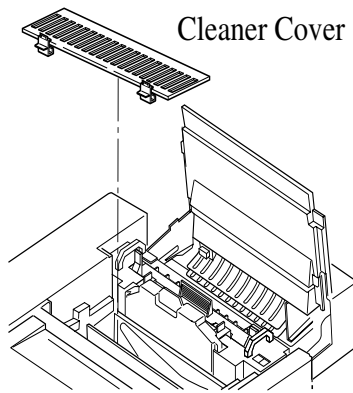
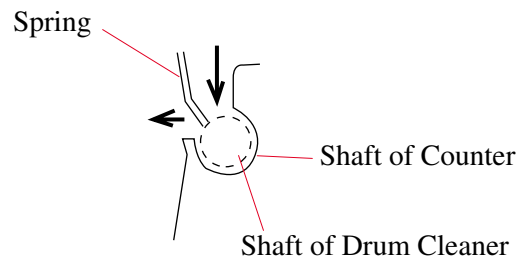

Fig. 5-24
Fig. 5-26
(see Fig. 5-24 through Fig. 5-26)
1. Remove the cleaner cover (see Fig. 5-24).
3. Install a new drum cleaner in the printer (see Fig. 5-26). Push the drum cleaner into the printer, having both ends meet the bearing at the engine side.